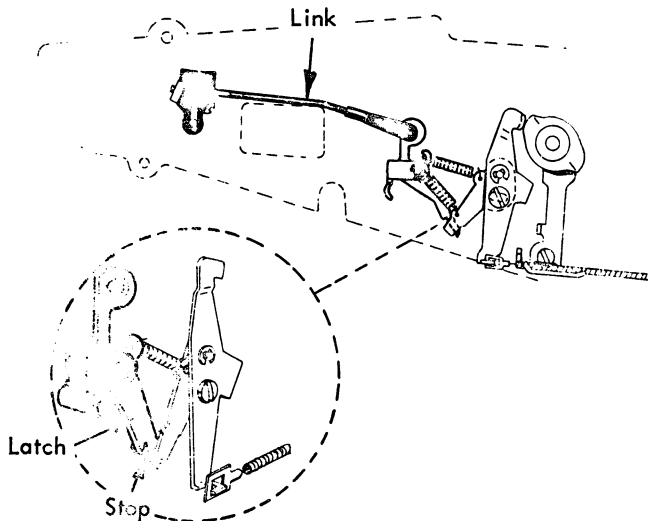

FIGURE 142.11 Low Velocity Latch Link
9. **Low Velocity Latch Link** - Adjust the low velocity latch link (Fig. 142.11) in the following manner: With the machine latched at rest and the low velocity latch held against the adjusting stop on the cam follower, match the pin clevis on the link with the hole in the latch. When matching the clevis, be sure to hold the link toward the rear of the machine so that the low velocity vane will be against the tail of the interposers.